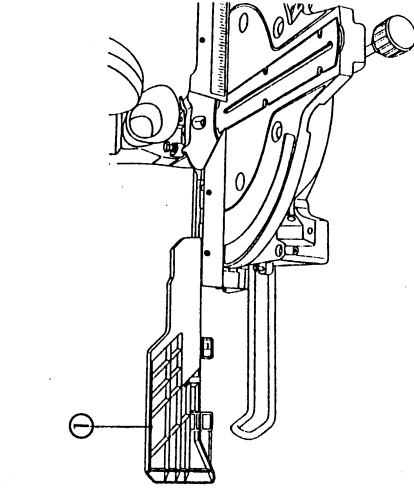

Fig. 7
2. For bevel or compound cuts, install the Extension Fence ① some distance from the saw blade. (Fig. 7)